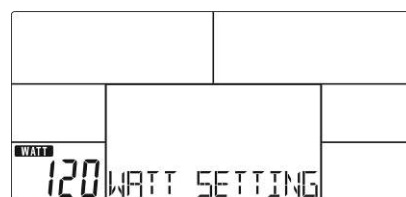

Fig. 18
2. Set the desired watt value with the UP/DOWN buttons and confirm with the MODE button (Fig. 18).